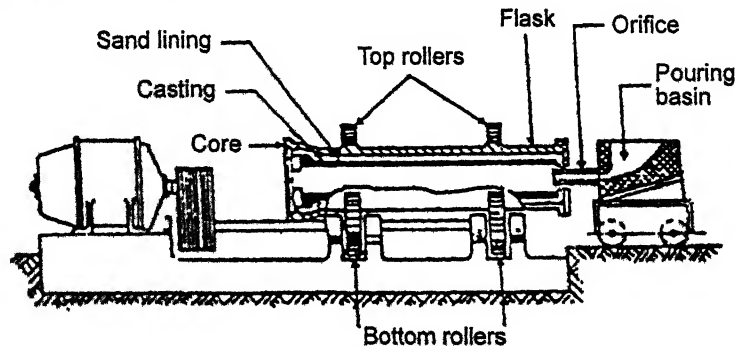

Fig. 8.26. Centrifugal casting.
- A machine for producing such centrifugal castings is shown in Fig. 8.26. Non-